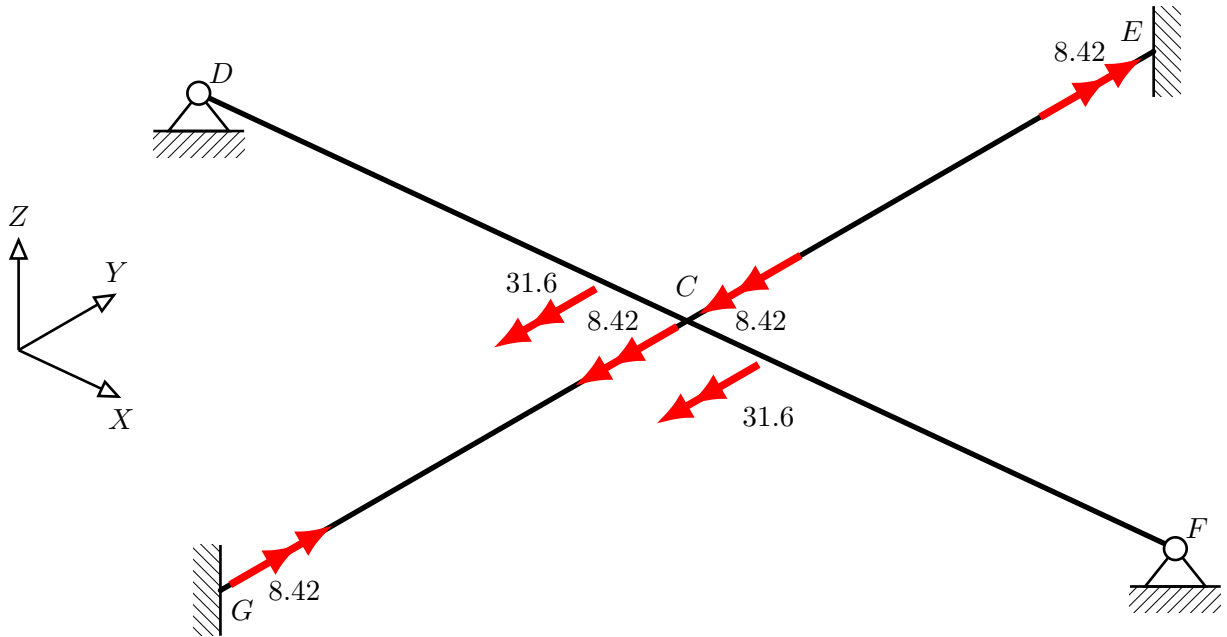
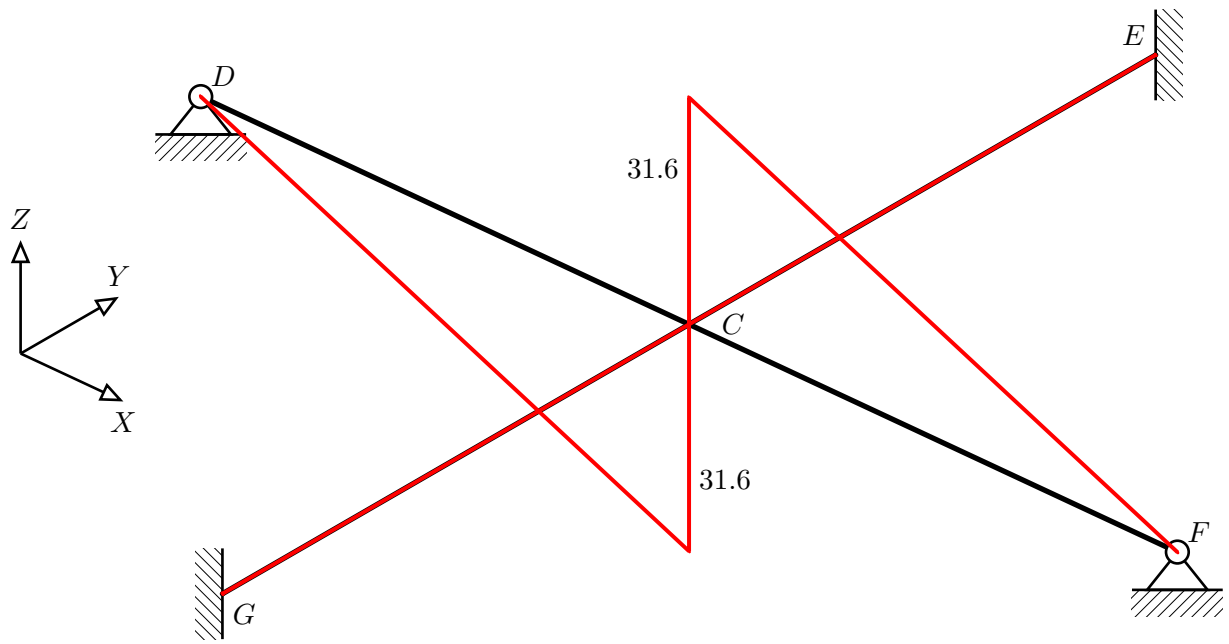

Figure 1: Free body diagram.
Figure 2: Bending Moment Diagram.
Step 10 is to draw the internal actions diagrams. To do this, the results of the member actions which were derived in the local member coordinate system must now be considered now in the global coordinate system. The easiest way to do this is to draw the directions by carefully interpreting the member force signs against the global axis system. The resulting FBD is shown in Figure 1.
Considering the BMD, for each member, to identify the side in tension it can help to visualise the deformation resulting from the forces acting on it indicated in the free body diagram, Figure 1. Since there are no loads acting between the nodes, the BMD is comprised of straight lines between the values at each node. The BMD is shown in Figure 2.
For the TMD, it is not necessary to adopt a strict drawing convention once the relative actions are indicated. For example, the double-headed arrow in Figure 1 indicating the torsion of member CE could be thought of as an analogous “tension” which we may consider as positive, and so we draw the TMD above the line.